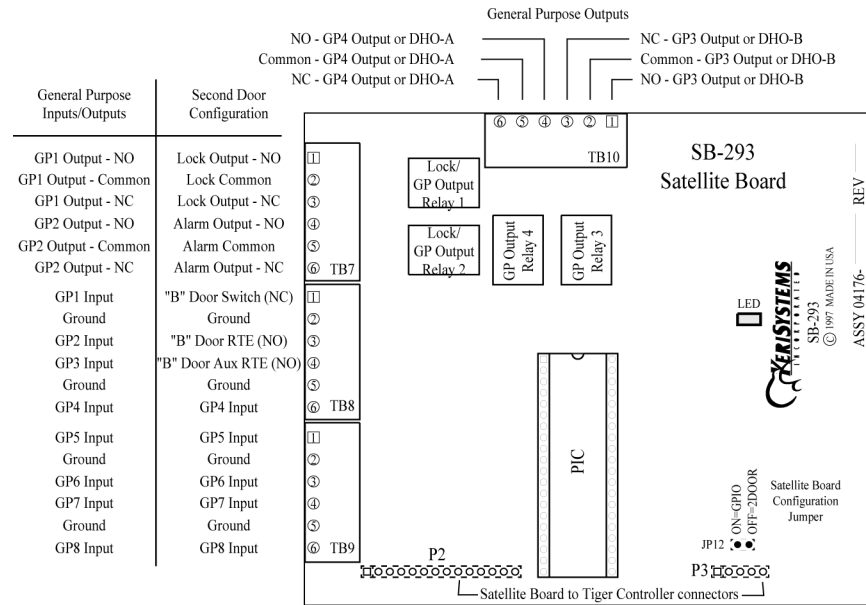

Figure 1: SB-293 Board
5. Gently press the two boards together with each stand-off into its mounting hole and with the connector pins meshing together. Once power has been applied, the LED on the SB-293 (see Figure 1) will turn green if the J2 to P2 connector pins have been meshed together properly.